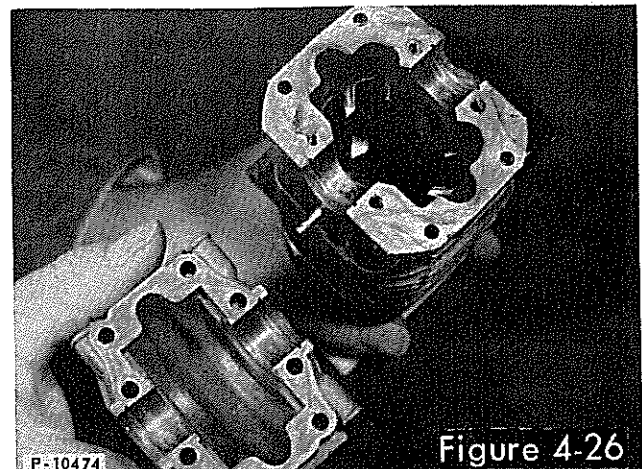

Figure 4-26
4. Coat the mating surfaces of the crankcase cylinder and crankcase bottom with a sealant (Figure 4-26). Do not get the sealant on any other surfaces.